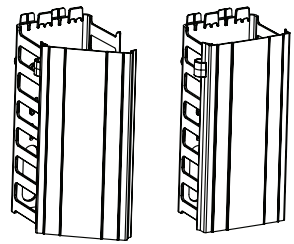

FIGURE 7
1. Attach cover first. Snap hinge between slotted fingers and attach to one side of cover (Figure 7).